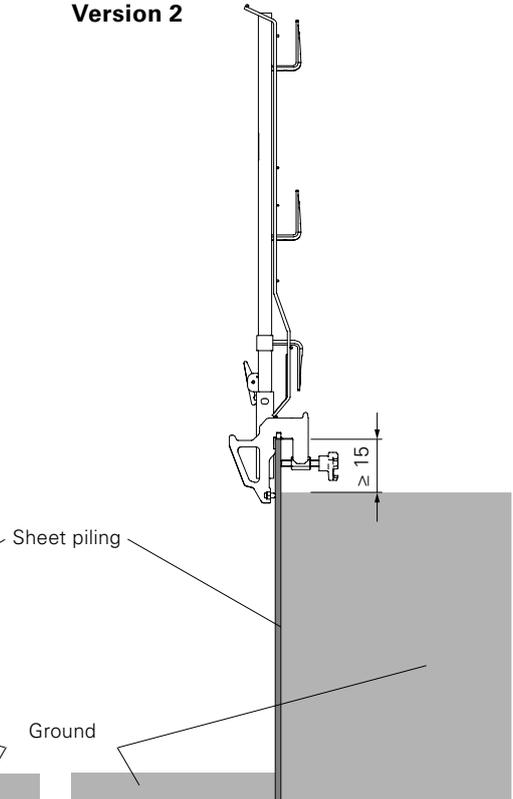

Fig. A2.13
- Mount Triple Wingnut (4b) in the direction of the higher level. (Fig. A2.13)